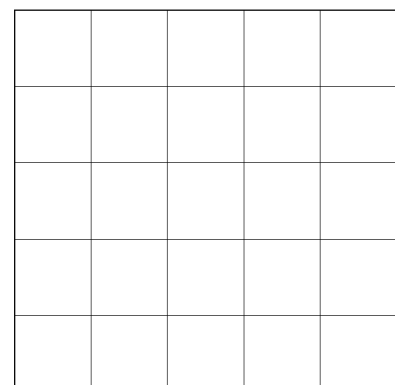

Fig. 15.3.6: Current
- Draw the vector diagram of currents in Fig. 15.3.6. From your drawing, determine the apparent current (total current)  $I$ .